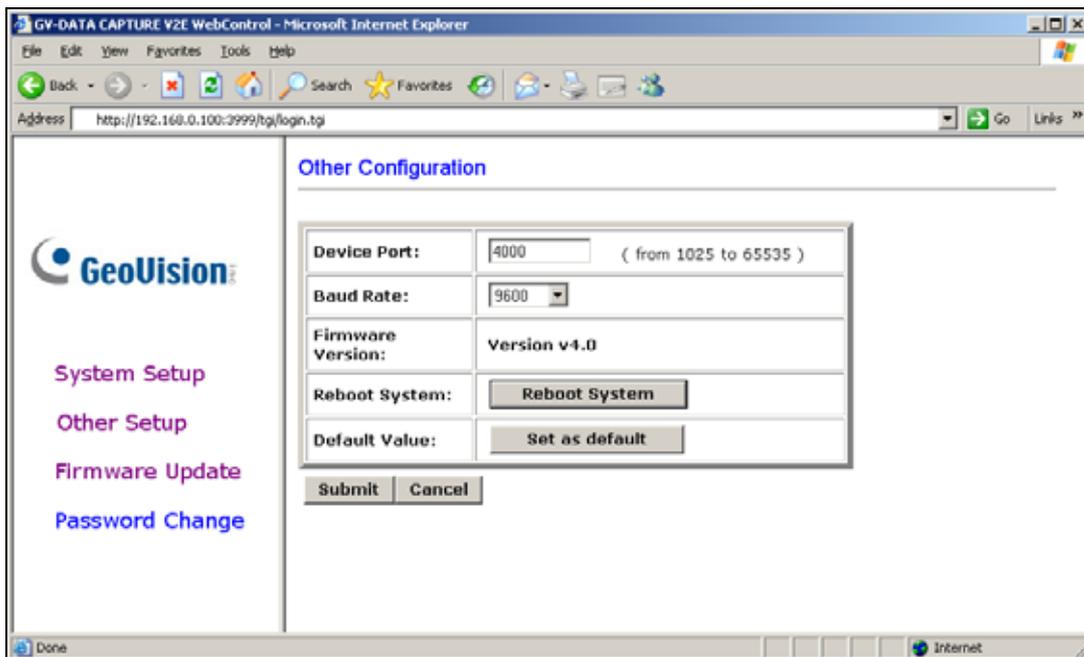

Figure 11
5. In the Device Port field, keep default value **4000**. Or modify it to match that of the POS system. See *Figure 11*.
4. In the Device Port field, keep default value **4000**. Or modify it to match that of the POS system. See *Figure 11*.
2. Check if the baud rate of GV-Data Capture V2E (see *Figure 11*) is set the same as in the POS device.